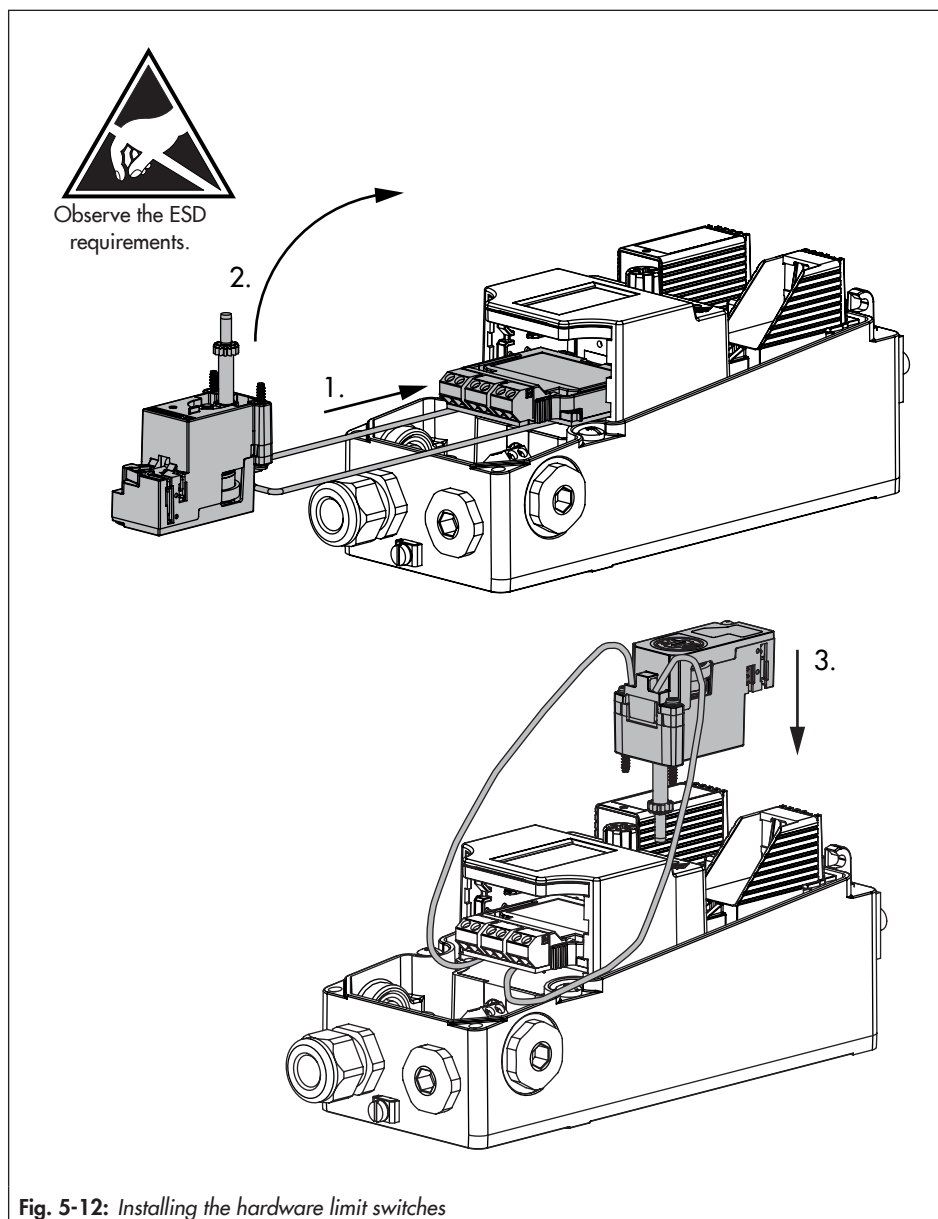

Fig. 5-12: Installing the hardware limit switches
1. Guide the mechanical assembly over the display and install it as shown in Fig. 5-12. Make sure that the pinion shaft engages with the gear wheel for transmission of the position pick-up. If it cannot be installed because the gear wheels are in the way, slightly turn the pinion shaft.